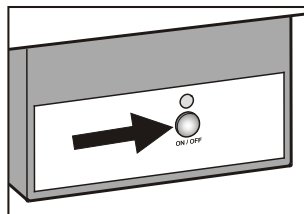

Figure 23
*The ice maker can also be turned on and off by pressing the **On/Off** button at the ice maker housing for approximately 1 second (**Figure 23**).*